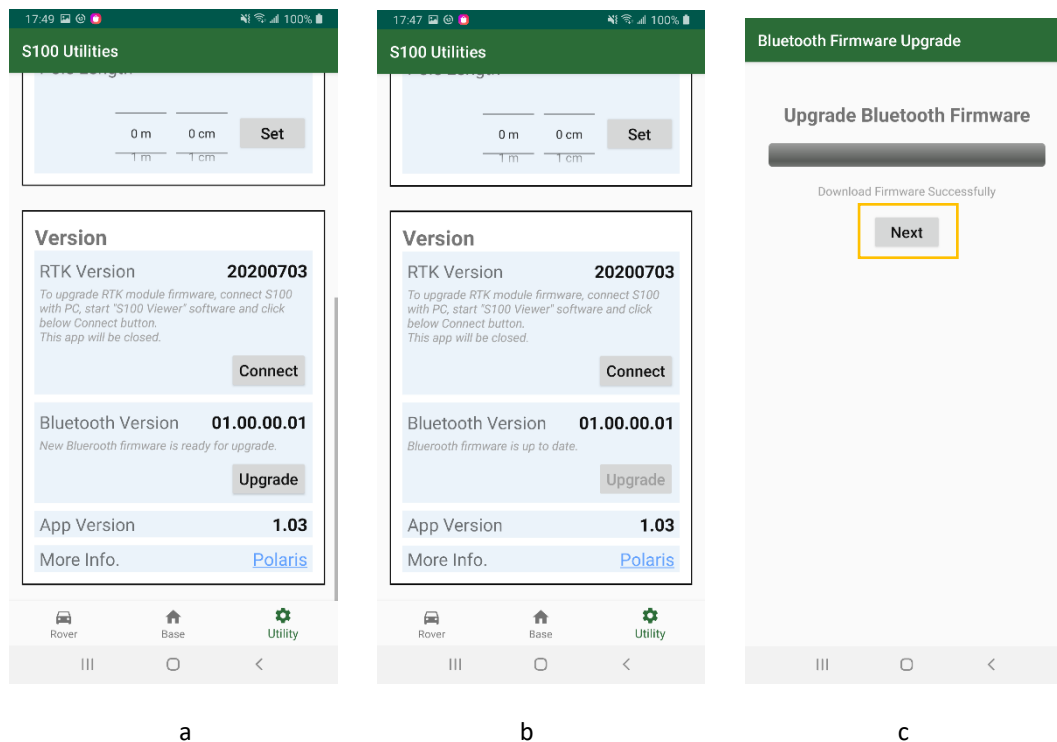

Figure 6-8
1. If a new version of Bluetooth firmware is available, the Upgrade button on Polaris Connect app's screen Utility-Version-Bluetooth Version becomes clickable (Figure 6-8 a), otherwise it is unclickable (Figure 6-8 b).
2. Clicking Upgrade button leads to Bluetooth firmware download page. Once the Bluetooth firmware is downloaded from server, a Next button appears. Click it to continue to do WiFi connection. See Figure 6-8 c.